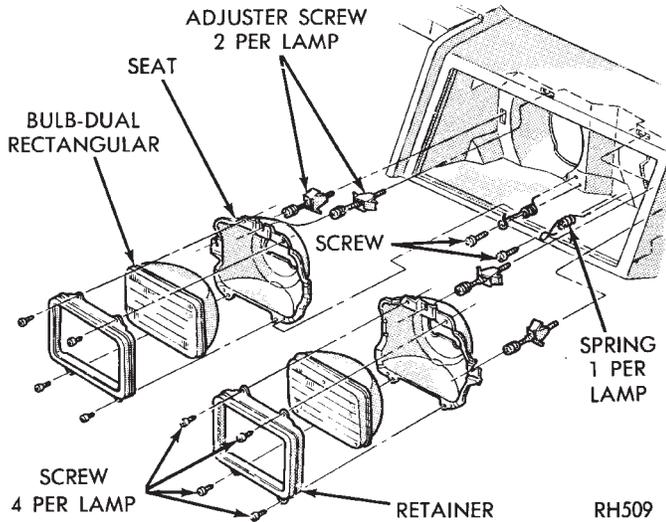

Fig. 3 Sealed Beam Replacement—Typical
- (6) Remove screws from interior retaining ring (Fig. 3), and remove ring.
- (7) Separate sealed beam from seat and disconnect wire connector.